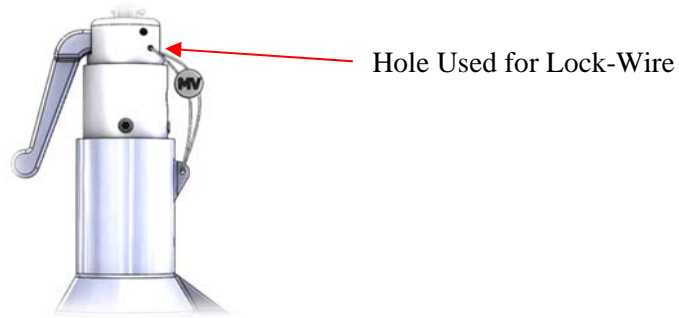

Figure 60: Lift Lever Orientation and Lock Wire
12. Place the lift lever cap subassembly over the adjustment screw and lift lever lock nut with the orientation shown in Figure 60.
17. Attach the seal wire through the small unused hole of the lift lever cap as shown in Figure 60.